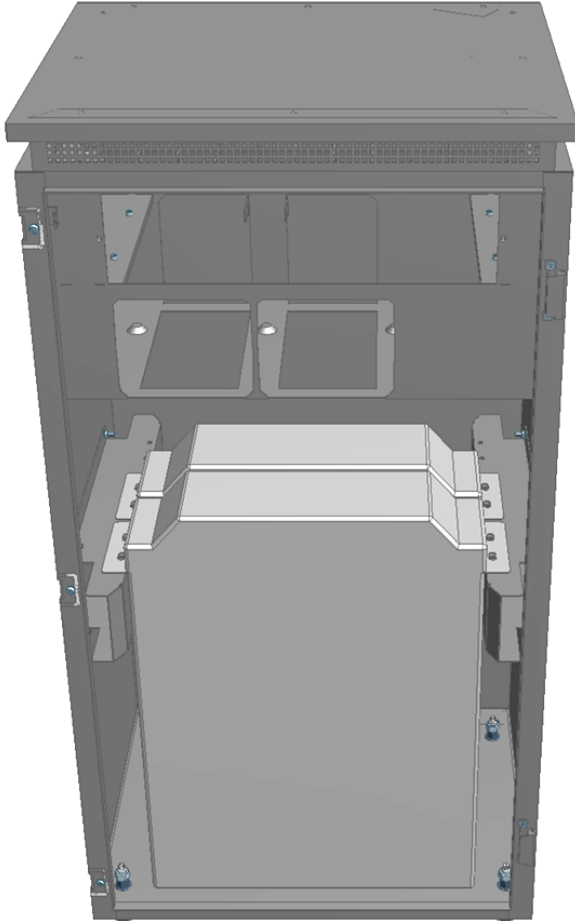

Figure 18: Installing the battery module(s)
Up to two battery modules can be installed. The battery modules are placed in a **suspended** position (see Figure 18).
- Push the battery module over the mounting holes in the centre of the rails (see Figure 18).
- Push the master module onto the centre fastening holes (see Figure 18 and the slave module onto the front fastening holes.